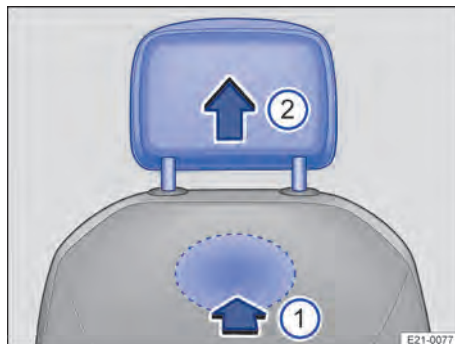

Fig. 71 On the rear of the front seats: removing the head restraint.
2. To unlock the head restraint, feel for the recess in the marked area on the rear of the backrest and use a finger to press it in the direction of the arrow → Fig. 71 ⓘ.
4. Pull the head restraint out fully in the direction of the arrow → Fig. 71 ⓘ.